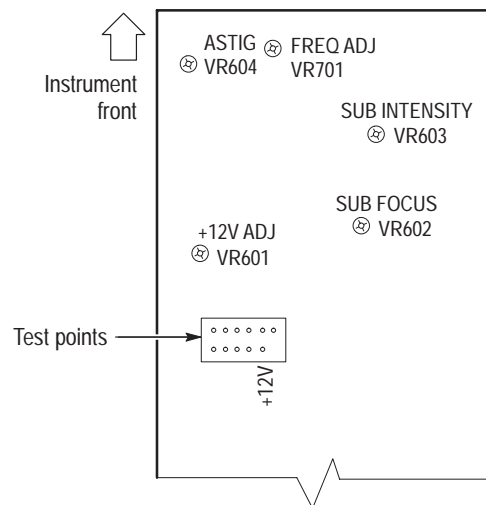

Figure 7: Power and High Voltage board (viewed from the instrument bottom)
To locate the adjustments and test points for the following procedures, refer to Figure 7. The Power and High Voltage board occupies the bottom-left side of the instrument below the CRT.
1. On the Power and High Voltage board, connect the voltmeter common lead to the oscilloscope chassis ground and the measurement lead to the +12 V test point. See Figure 7 for the test point location.
3. Adjust VR601 for a voltmeter reading of +12 V. See Figure 7 for the adjustment location.
4. Verify that the voltage levels in Table 21 are within the specified limits. See Figure 7 for the test point locations.
3. Locate VR603 on the Power and High Voltage board (see Figure 7 for the adjustment location). Adjust VR603 until the trace is barely visible.
1. Set the front panel FOCUS control to midrange; then adjust VR602 on the Power and High Voltage board to obtain the best focus. See Figure 7 for the adjustment location.
4. Adjust VR604 on the Power and High Voltage board and the oscilloscope front panel FOCUS control until the dot becomes circular. See Figure 7 for the adjustment location.